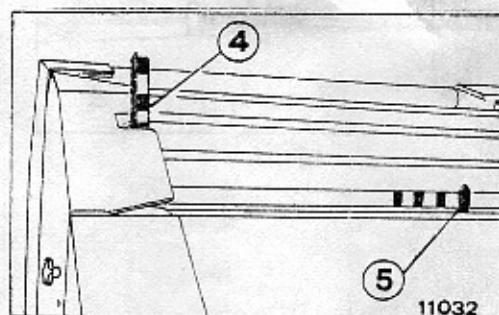

fig. 10
**NOTE:** Move travelling arm 5 (fig. 10) to the first yellow mark on the left (in driving direction) by turning the pulley before threading the twine (starting position).
Before picking-up the material and after each ejection of bale, the tailgate must be locked properly. Keep hydraulic valve on tractor in 'lower' for a short time. That way the tailgate will lock automatically. The tractor driver can see this as shown in figure 10. Locking lever indicator 3 is visible. With an open or not locked tailgate, the indicator 3 is not visible.
Progress of tying can be observed at any stage by means of the twine runnage indicator 5 (fig. 10). The twine runnage indicator 5 moves during the whole tying process and shows the particular tying position.